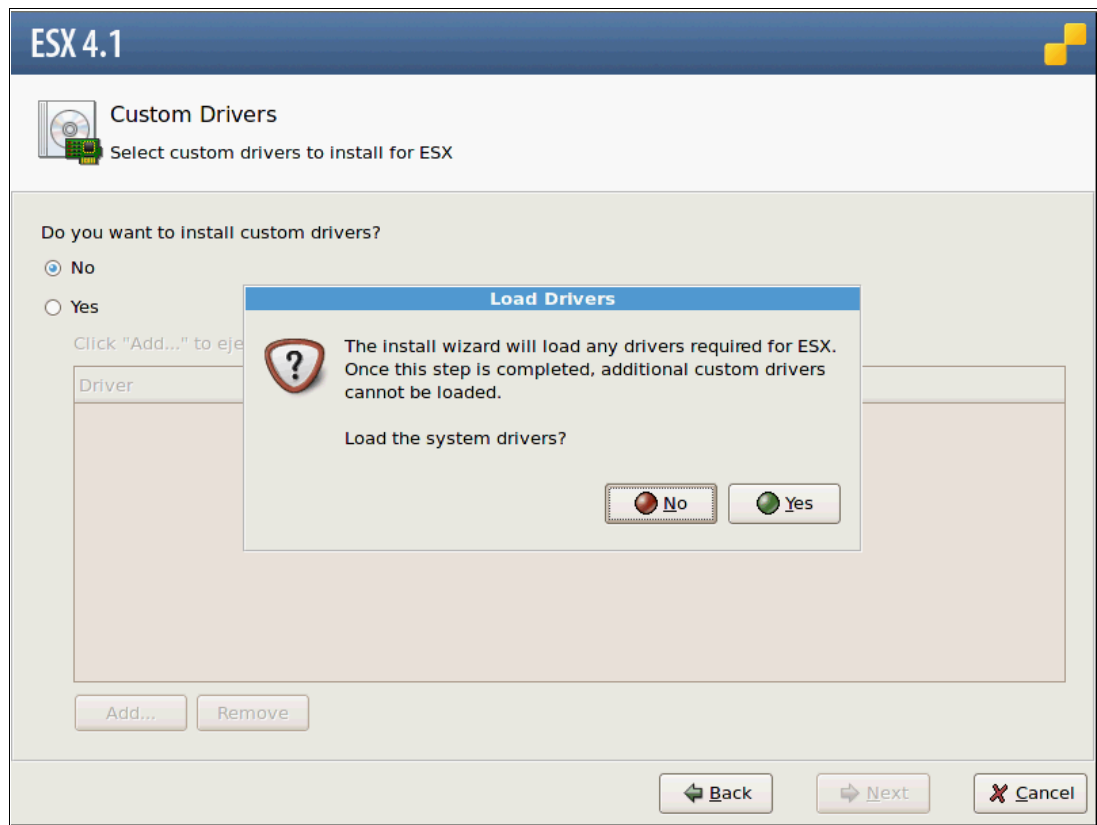

Figure 22-17 ESX Load Drivers Confirmation
6. In the Load Drivers window (Figure 22-17), click **Yes**.